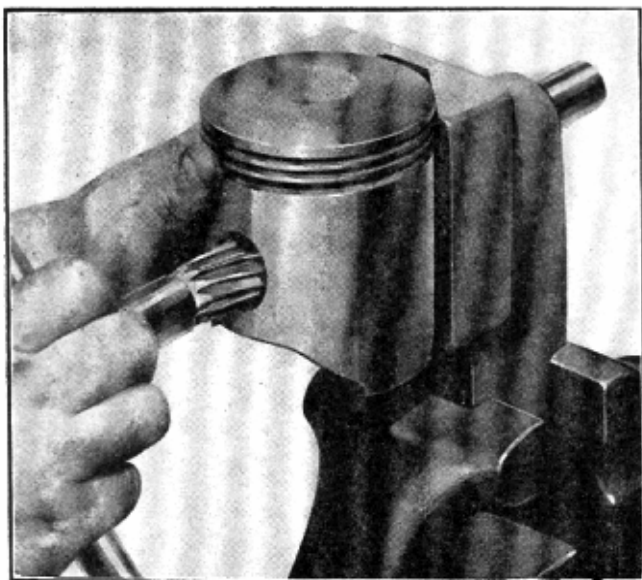

Fig. 12 —Piston Pin Bushing Reamer
4. Hold the piston in the V-block of the fixture with one hand and turn the reamer handle with the other hand until the reamer has passed through both bushings as shown in Fig. 12.